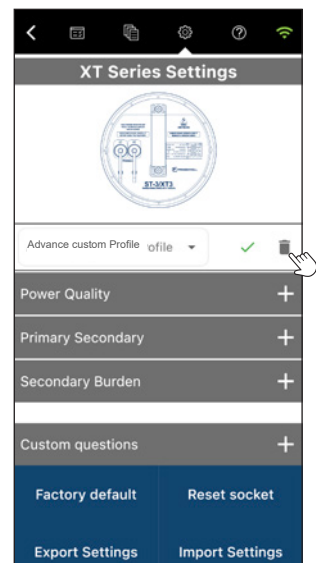

Figure 4
- Delete a profile:** To delete a profile, click the drop-down menu and click the name of the profile and click the garbage can 🗑️ to delete it (Figure 4).